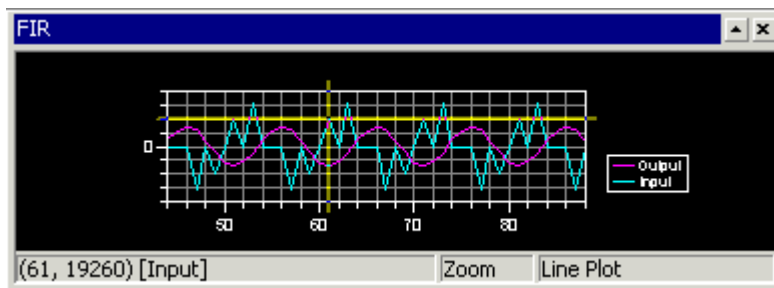

Figure 2-31. Plot Window: Using the Data Cursor Feature
3. Right-click inside the plot window and choose **Data Cursor** from the popup menu. Move to each data point in the current data set by pressing and holding the Left (\leftarrow) or Right (\rightarrow) arrow key on the keyboard. To switch data sets, press the Up (\uparrow) or Down (\downarrow) arrow key. The value of the current data point appears in the lower-left corner of the plot window, as shown in Figure 2-31.